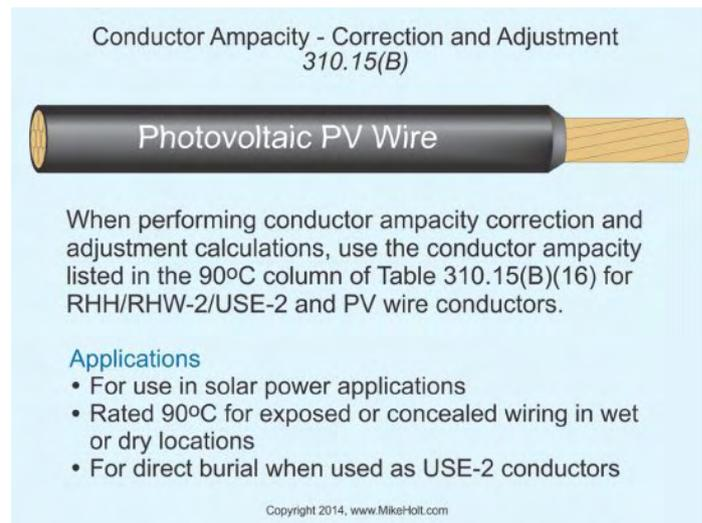

Figure 690-45
- When performing conductor ampacity correction and adjustment calculations, use the conductor ampacity listed in the 90°C column of Table 310.15(B)(16) for RHH/RHW-2/USE-2 [310.15(B)] and PV wire at 90°C [110.14(C)(1)(b)(2)]. Figure 690-45